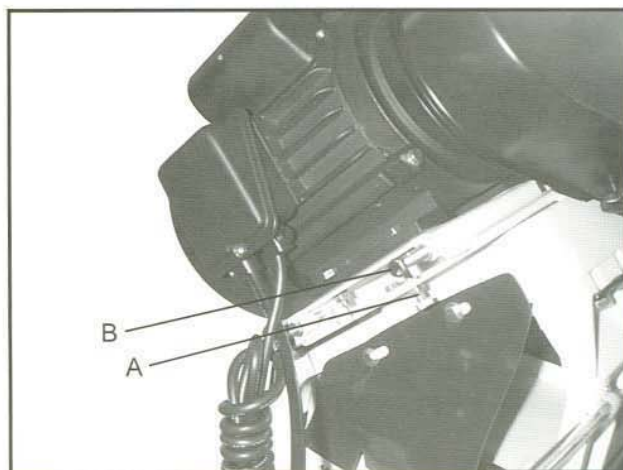

Fig. 7
2. Loosen the motor plate lock bolt (A, Fig. 7).
3. Loosen motor plate slide bolt (B, Fig. 7) until the belt can be moved on the the pulleys.
5. Tighten the motor plate slide bolt (B, Fig. 7) to re-tension belt.
6. Tighten the motor plate lock bolt (A).